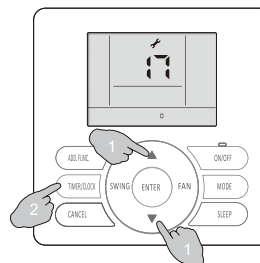

fig.5
2. Press  or , and the parameter code increases or decreases by 1 accordingly. When 17 displays, press ENTER button to rewrite the EE parameter of the indoor unit, at the same time, the symbol  lights and EE parameter code 00 blinks.(See fig.5)